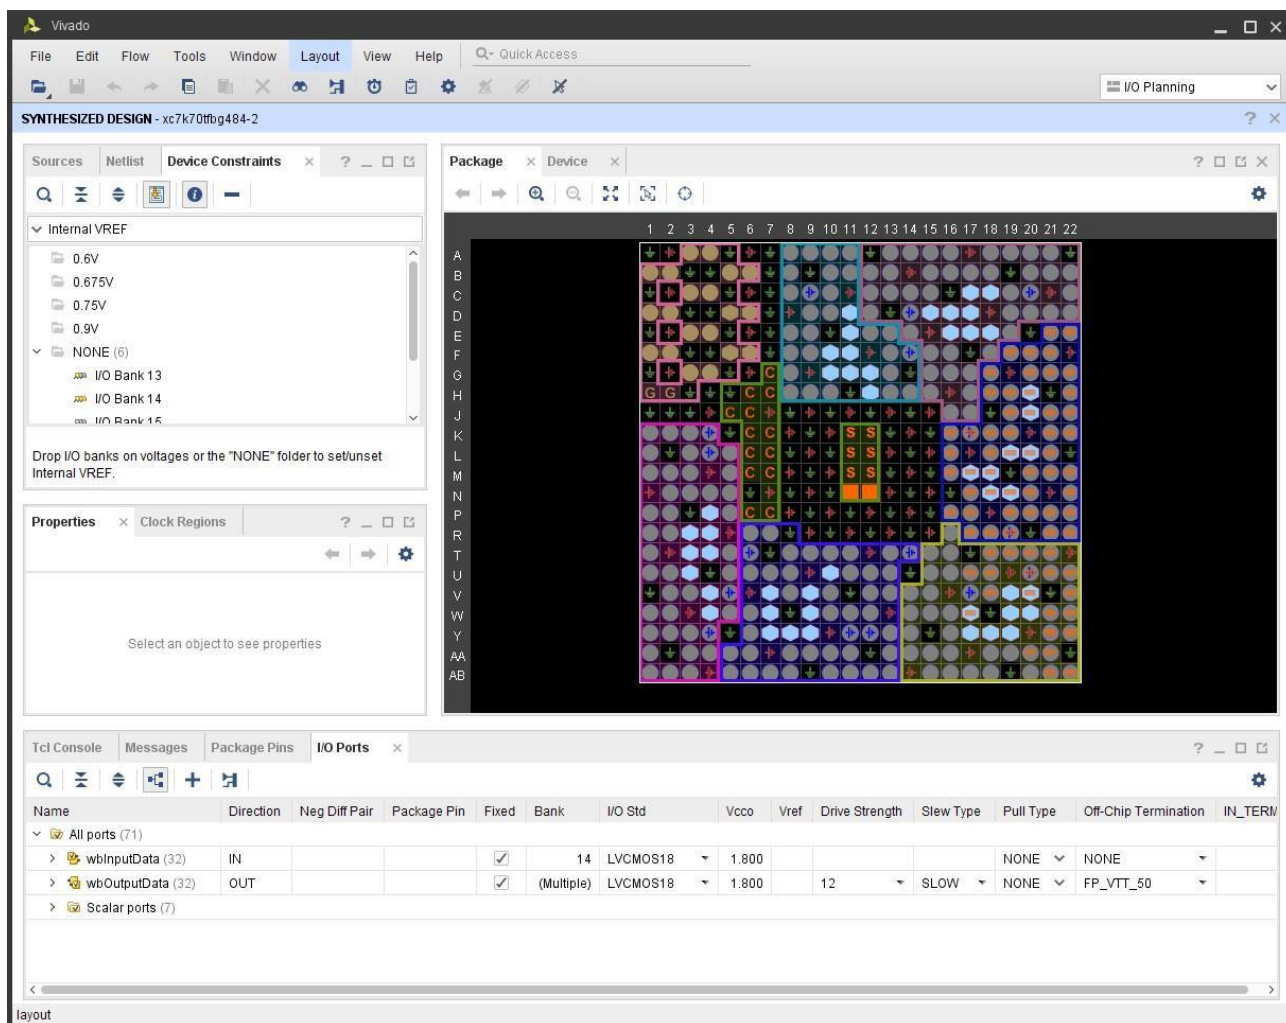

Figure 5: Open I/O Planning View Layout
1. Open the I/O Planning view layout by selecting **I/O Planning** from the **Layout Selector** pull down, as shown in Figure 5.